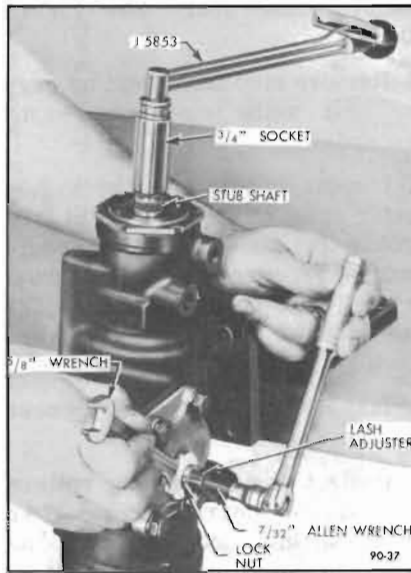

Figure 90-37—Pitman Shaft Over-Center Adjustment
5. If readings are within specifications, check and adjust if necessary, pitman shaft "over-center" adjustment. Reading on torque wrench should be 4 to 8 inch pounds higher than was obtained in Step 4. See Figure 90-37. This reading is taken when rotating stub shaft through "high-point" range (a minimum of 180° each side of center) with lash adjuster nut tight.